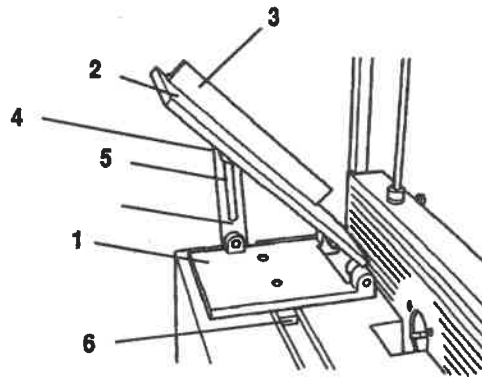

Fig. A-28
The bevel miter gauge comes fully assembled. To set the angle you want, place the guide bar (6) in the Joint-Matic's miter channel, shown in Fig. A-28. Loosen the knob (4), adjust the angle to either the pre-cut workpiece or a measuring device (such as a sliding T-bevel square), and then re-tighten the knob.